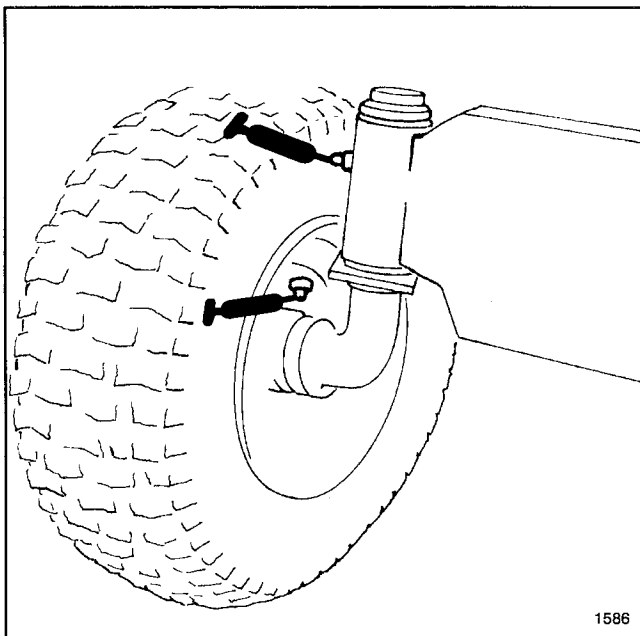

Figure 8
1. Wipe grease fittings on spindles and wheels (Fig. 8) with a clean rag. If there is paint on front of fittings, scrape it off.
2. Lubricate both axle spindles w/No. 2 general purpose grease (Fig. 8). Continue to pump grease until it oozes out the spindle. Wipe up any excess grease.
3. Lubricate both front wheels w/No. 2 general purpose grease (Fig. 8). Pump grease gun about four times. Wipe up any excess grease.